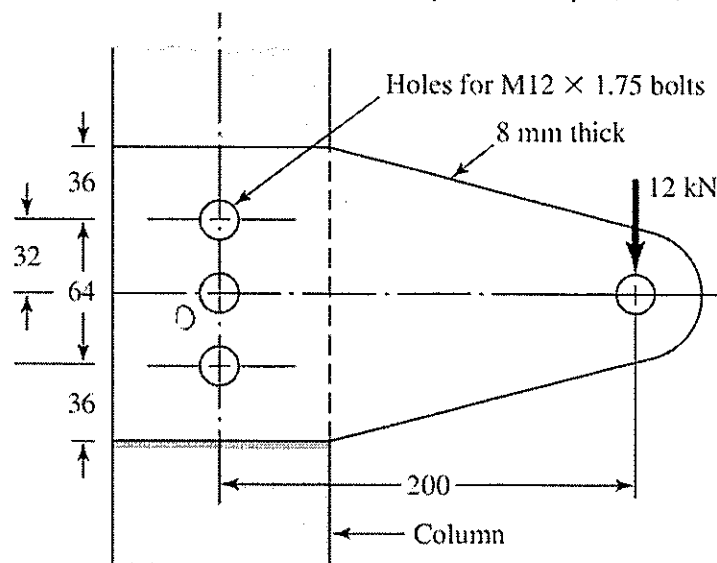

Figure 2
- The cantilever bracket is bolted to a column with three M12×1.75 ISO 5.8 bolts as in Figure 2. The bracket is made from AISI 1020 hot-rolled steel with $S_y = 210 \text{ Mpa}$. Assume the bolt threads do not extend into the joint. Find the factors of safety for the following failure modes: shear of bolts, bearing of bolts, bearing of bracket, and bending of bracket. $S_{sy} = 0.577 S_y$. (25%)